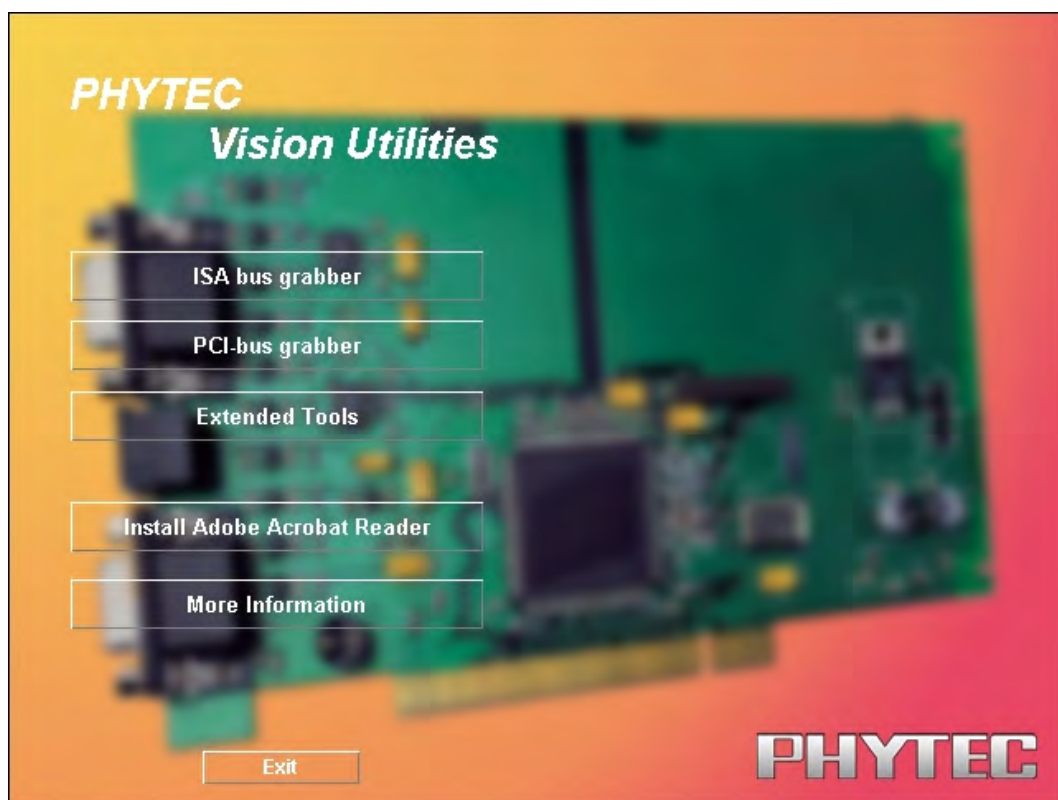

Figure 8: PHYTEC Installation Menu
- Select the *PCI bus grabber* from the installation menu that will appear (see Figure 8).